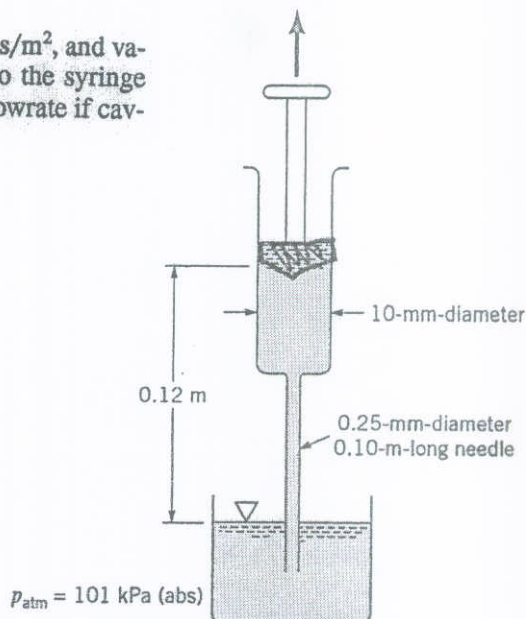

FIGURE P8.30
8.30 A liquid with  $SG = 0.96$ ,  $\mu = 9.2 \times 10^{-4} \text{ N} \cdot \text{s}/\text{m}^2$ , and vapor pressure  $p_v = 1.2 \times 10^4 \text{ N}/\text{m}^2(\text{abs})$  is drawn into the syringe as is indicated in Fig. P8.30. What is the maximum flowrate if cavitation is not to occur in the syringe?